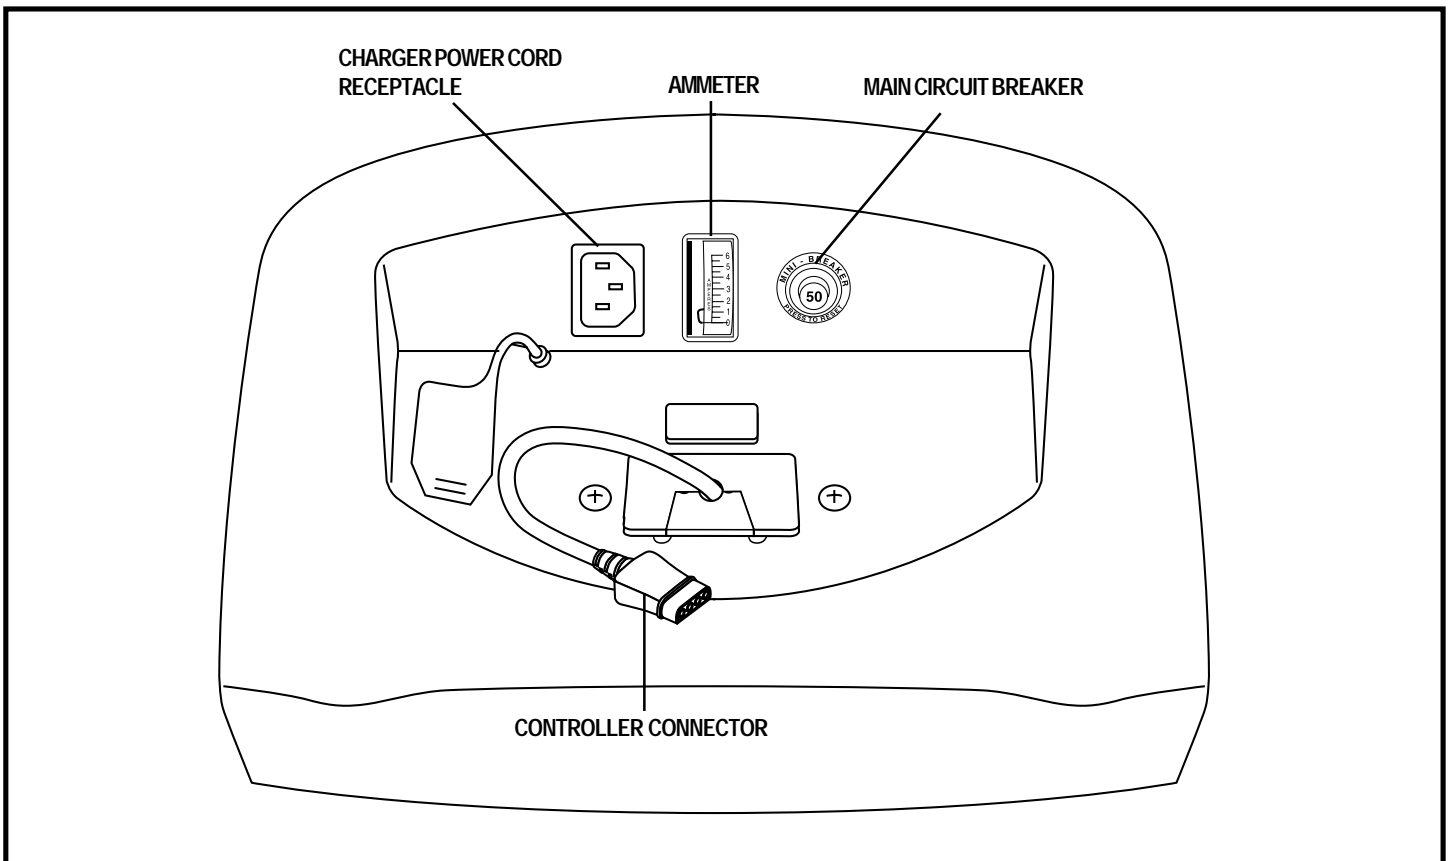

Figure 6. Jazzy Select 14 Series Electronic Components
The electrical components are located inside the power base. The charger power cord receptacle, ammeter, main circuit breaker, and controller connector are located on the electronics tray. See figure 6.
4. Plug the controller connector into the power base. See figure 6.
3. Disconnect the controller connector from the power base. See figure 6.